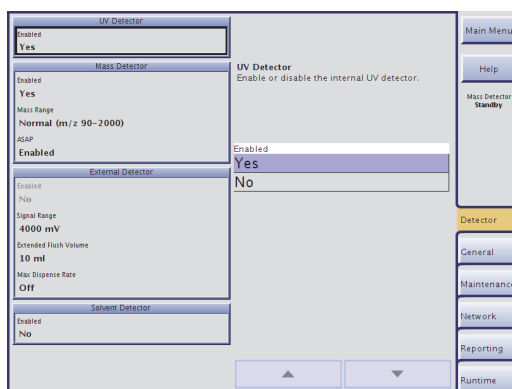

Figure 1-7. System Mode (Isolera Dalton 2000 Shown)
In the System mode, the software is divided into six (6) tabs that can be accessed in the right-hand panel (see Figure 1-7). Here is a short description of what you can do at each tab: